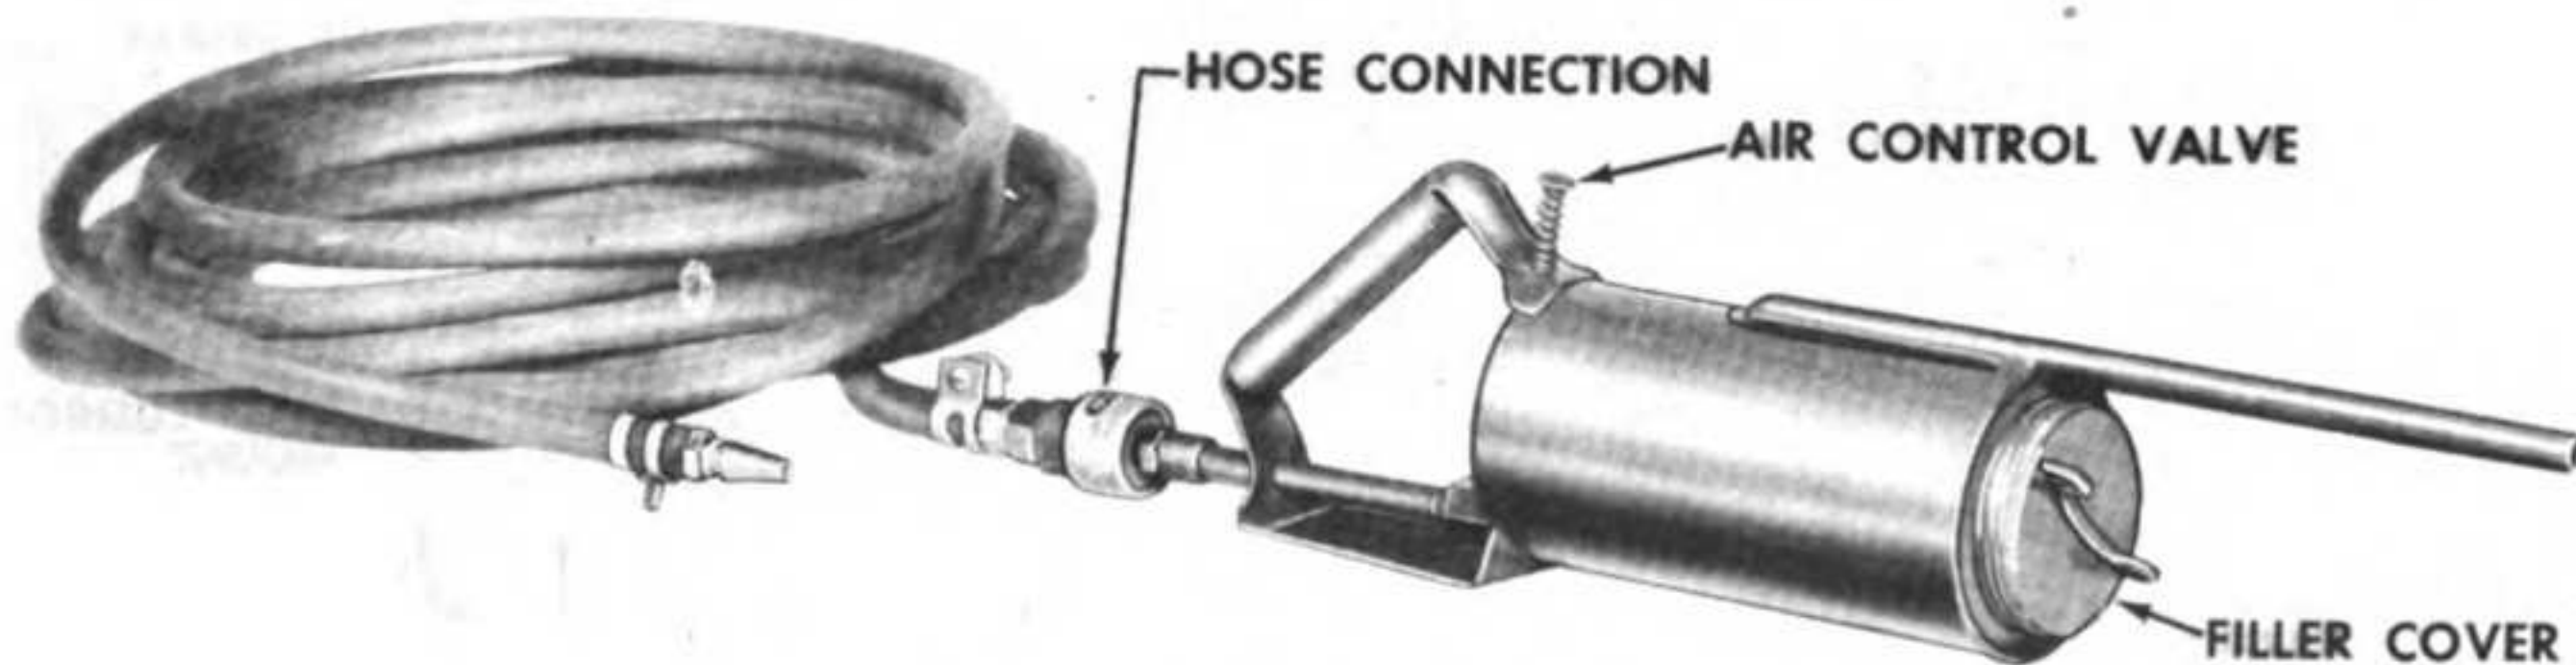

Figure 9—Dusting Gun and Hose
(2) **AIR CONTROL VALVE.** The air control valve on the dusting gun regulates the intensity of dusting compound spray. (See figure 9.)